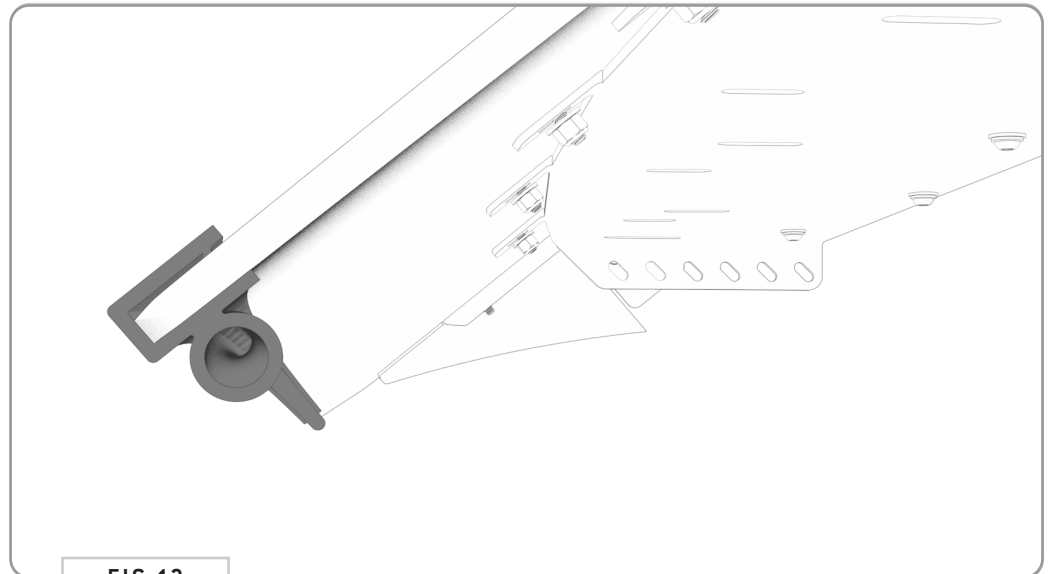

FIG 13
**4.4 Fairing Gasket Trim:** Attach the **Fairing Gasket Trim** to the **Front Fairing** in the orientation shown in **FIG 13**. Make sure the "bulbed" side is facing inward.